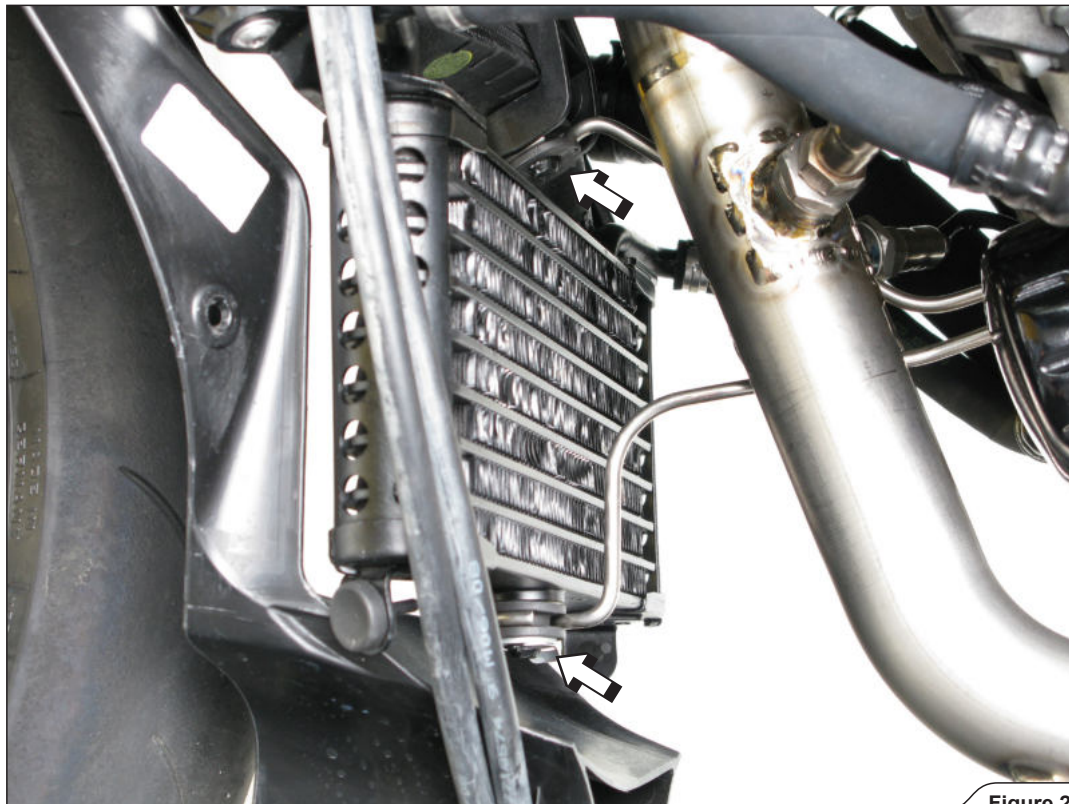

Figure 20
4. Attach the radiator bracket onto the radiators (Figure 20).